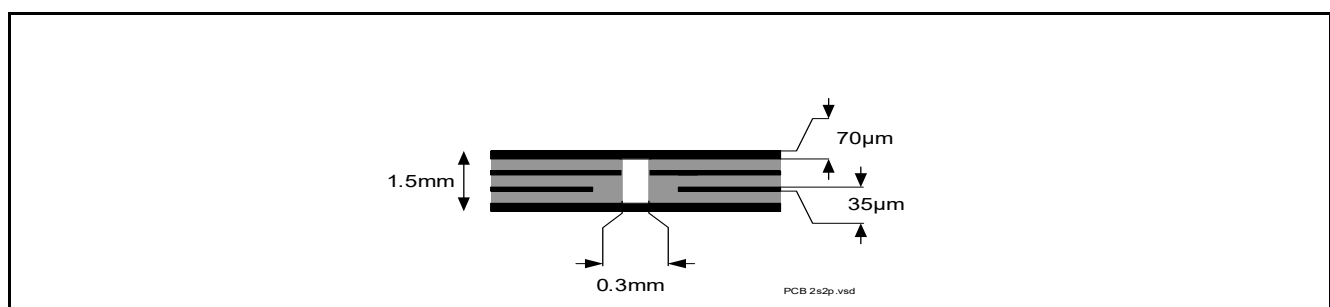

Figure 4 2s2p PCB Cross Section
2) Specified R_{thJA} value is according to JEDEC JESD51-2,-5,-7 at natural convection on FR4 2s2p board with 1 W power dissipation equally dissipated for both channels at $T_A = 105^{\circ}\text{C}$; The product (chip + package) was simulated on a 76.4 x 114.3 x 1.5 mm board with 2 inner copper layers (2 x 70 μm Cu, 2 x 35 μm Cu). Where applicable, a thermal via array under the exposed pad contacts the first inner copper layer. Please refer to Figure 4.